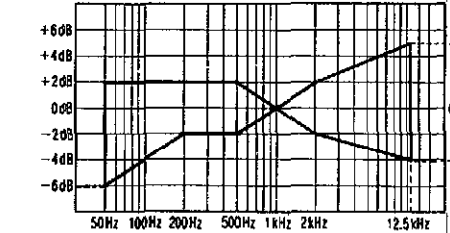

Fig. 14
- Repeat steps 4 and 5 above for CrO₂ blank test tape (QZZCRX) and Metal blank test tape (QZZCRZ). In these cases raising the upper end of the test signal frequency range to 12.5kHz. Verify that the signal levels at the test frequencies fall in the ranges specified in Fig. 14 with respect to the reference signal level.